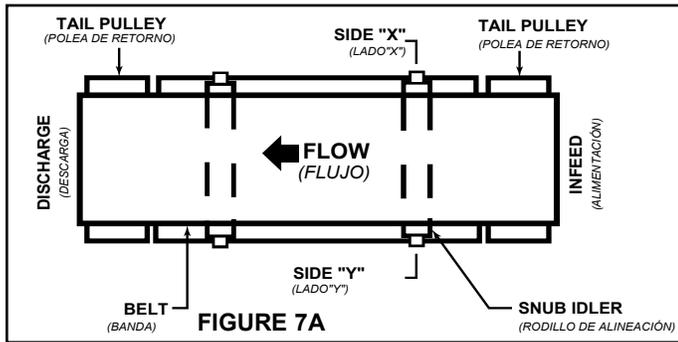

FIGURE 7A
B) Having observed belt and determined tracking problem, follow procedures in "How to Steer The Belt", See Figure 7A.
If Belt Direction (FLOW) is reversed, all the above conditions will remain the same as in Figure 7A, **except you are now viewing the conveyor from the opposite end.**